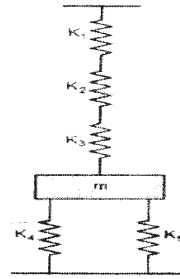

fig.1
- Q3) a)** For the system shown in fig.1 if $K_1=2400\text{N/m}$ $K_2=2400\text{ N/m}$ $K_3=2400\text{N/m}$ and $K_4=K_5=500\text{ N/m}$ Find 'm' such that the system has a natural frequency 10 Hz. [8]